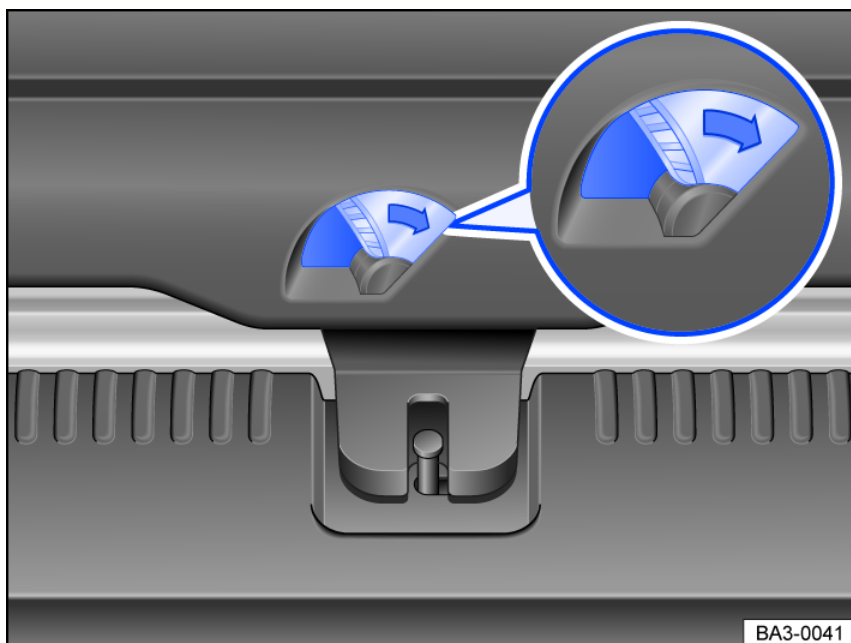

Fig. 63 In the luggage compartment: mechanically unlocking the trunk lid using the emergency release.
- Push the lever fig. 63 in the direction of the arrow and open the trunk lid.